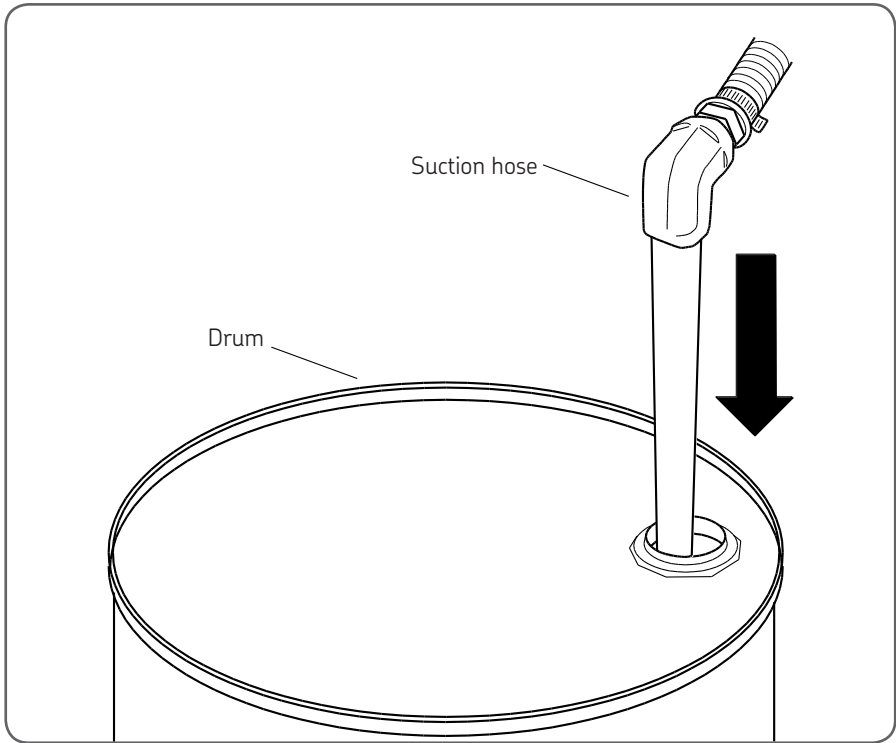

Fig 29 Place suction tube
2. Place the tube-end of the loading hose into the oil drum or container (208 litre/55 US gal drum). See figure 29.